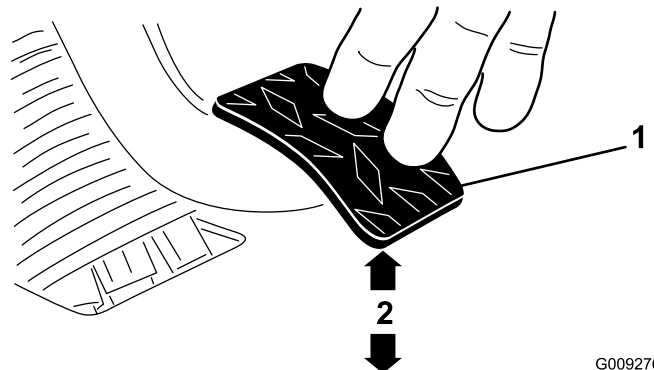

**Figure 65**
1. Loosen the jam nuts securing the clutch cable to the bracket on the bell housing (Figure 65).